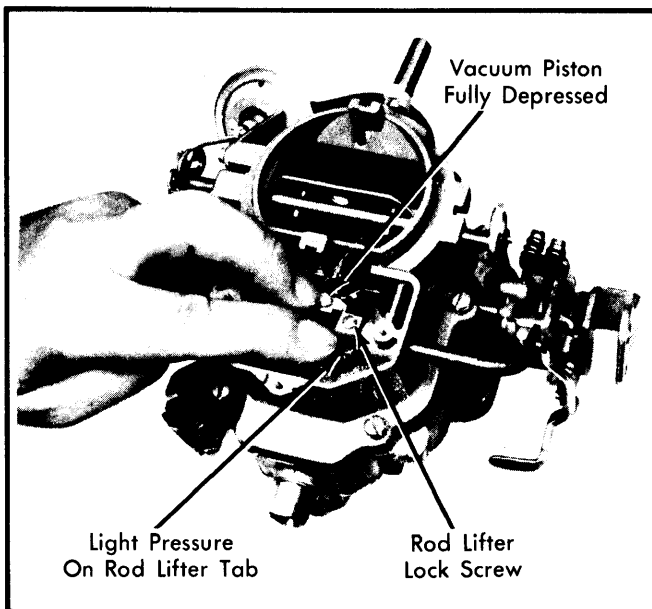

Fig. 3 Adjusting Step-Up Piston
- 1) With vacuum piston installed, back off idle speed screw until throttle valves are completely closed. Count number of turns so that screw can be returned to its original position. See Fig. 3.